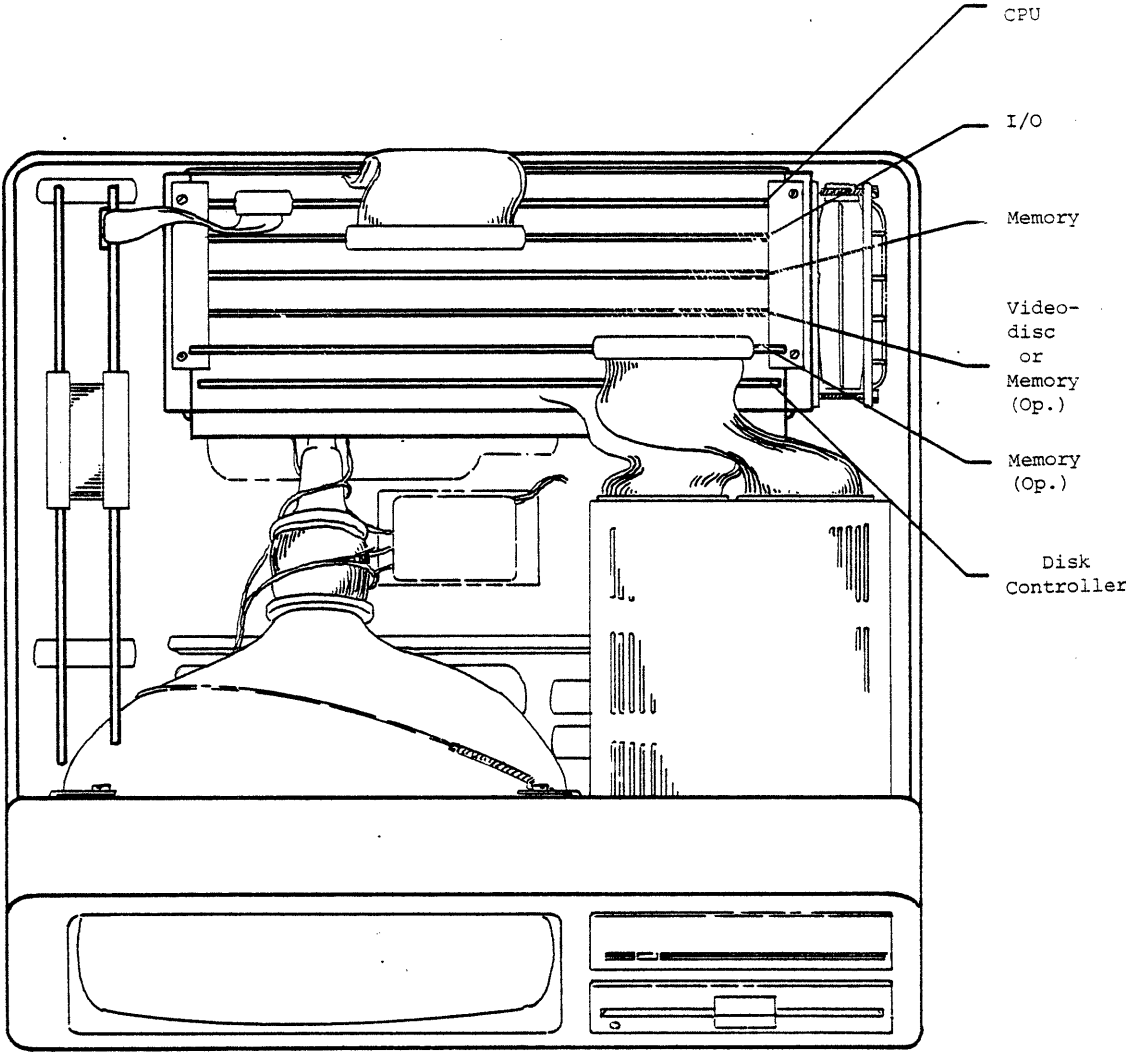

Figure 1-2
Refer to Figure 1-2.
To make the System 150 (mapped) compatible with a videodisc player, a printed circuit (PC) board configured for videodisc control is inserted into the first of the available slots in the chassis (see Figure 1-2).